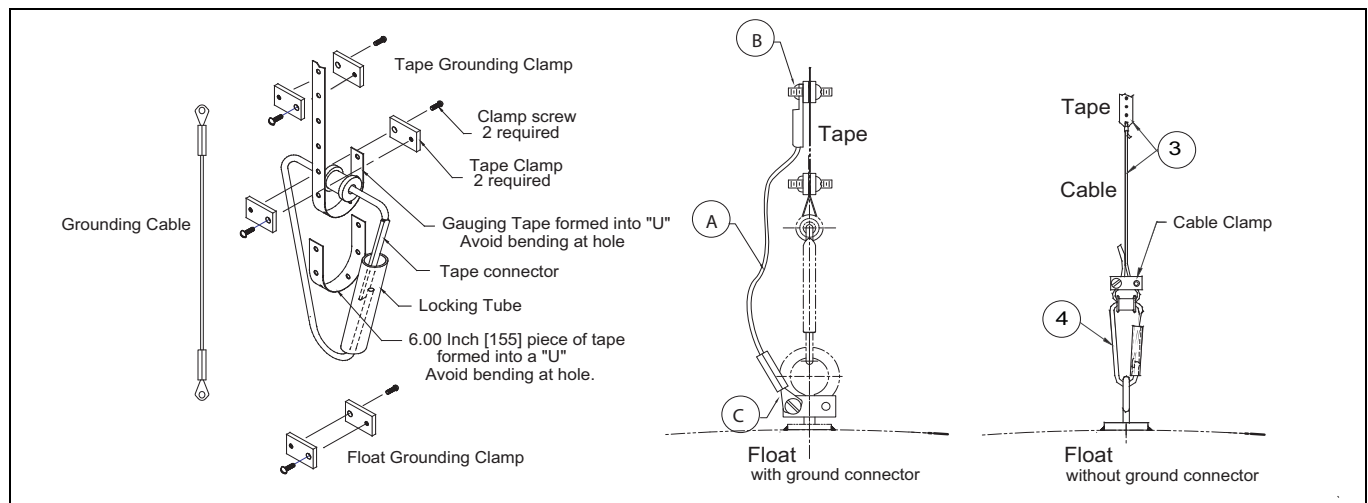

Figure 3-18: Tape Clamp Assembly with Grounding Cable
6. Attach the cable to the float with the furnished fastener and ground cable (Figure 3-18).
6. Install the gauge tape and 'U' piece to the tape connector with the tape clamps and screws provided (Figure 3-18 on page 31).
8. Connect the grounding cable (A) to the tape connector (point B).
10. Connect the grounding cable (A) to the float (point C).